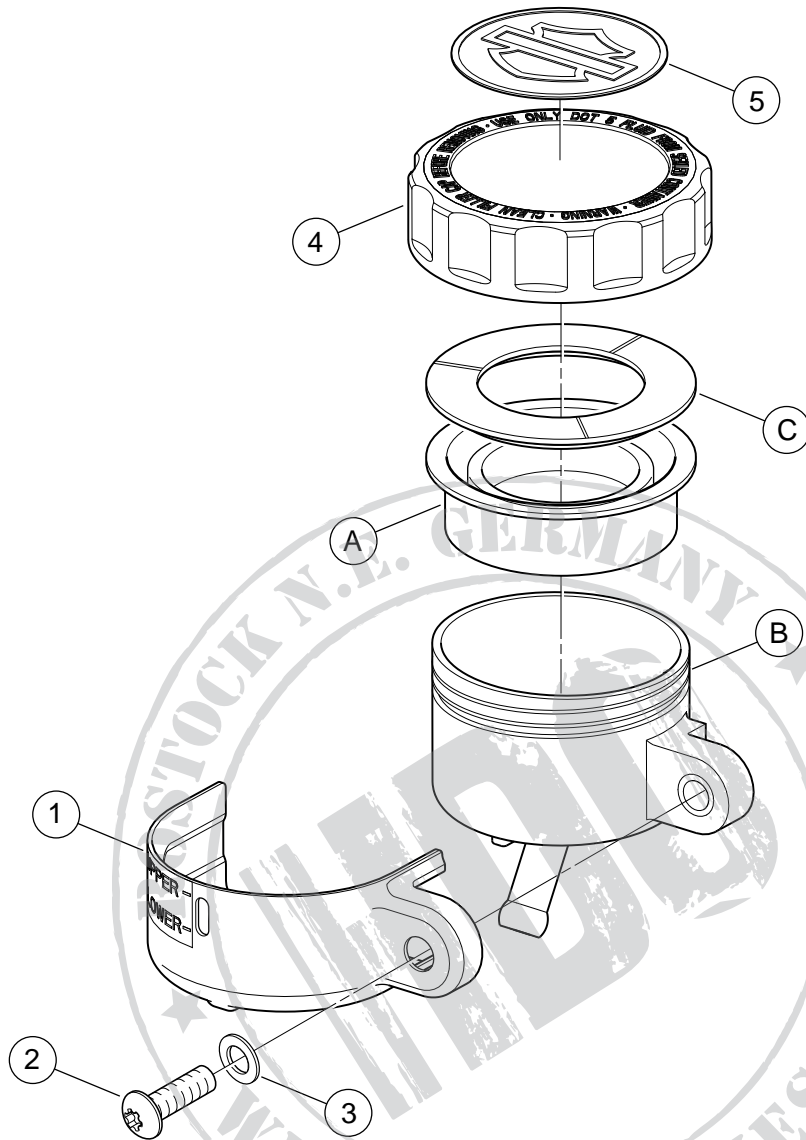

Figure 1. Service Parts: Chrome Rear Brake Reservoir Cover Kit
See Figure 1 and Table 1.
2. See the Figure 1. Obtain the chrome screw (2) and washer (3) from the kit. Place the washer onto the screw threads.
3. Position the chrome rear brake reservoir cover (1) over the reservoir, lining up the holes. Fasten with the chrome screw and washer using the T27 TORX® key (6) from the kit. Tighten securely.